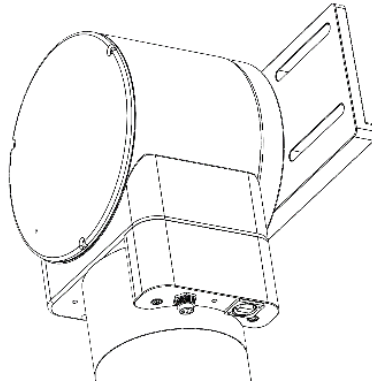

Figure 16: The instrument rotator interface panel and cable connectors.
- The drive tine has an instrument rotator interface panel and connectors on the underside of the panel to attach the instrument rotator cables (Figure 16).